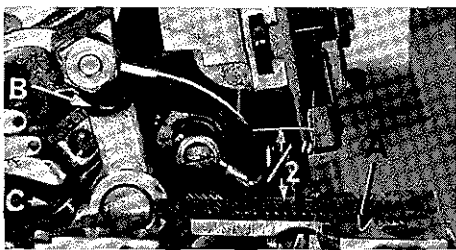

Fig. 3
With throat plate assembled in position, needle should center in the front end of needle slot. When needle is at high position, the needle point should be set  $1/2$  inch above the throat plate (A, Fig. 3) for Style 39500 JK. For Style 39500 JL the needles points should be  $7/16$  inch above the throat plate. To align needle or set the height above the throat plate, move needle driving arm (B) by loosening clamp screw (C). After needle has been properly set, tighten clamp screw and remove throat plate.